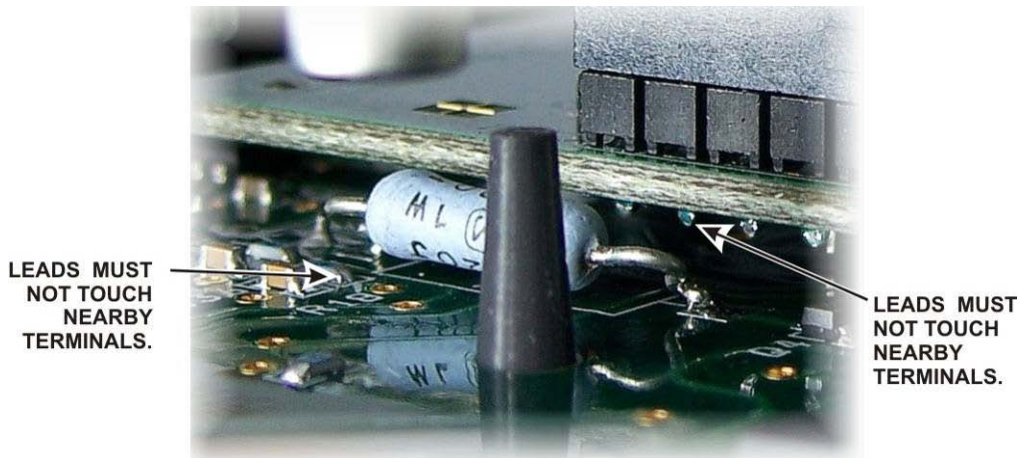

Figure 19. Checking Position of R3.
- If R3 was positioned above the board on its leads, look between the DSP boards and the front panel board to verify that the leads are not touching any terminals on either the aux DSP or front panel boards (see Figure 19). If necessary, unplug the DSP board assembly and adjust the position of R3 to ensure the leads are clear of other solder pads before proceeding.